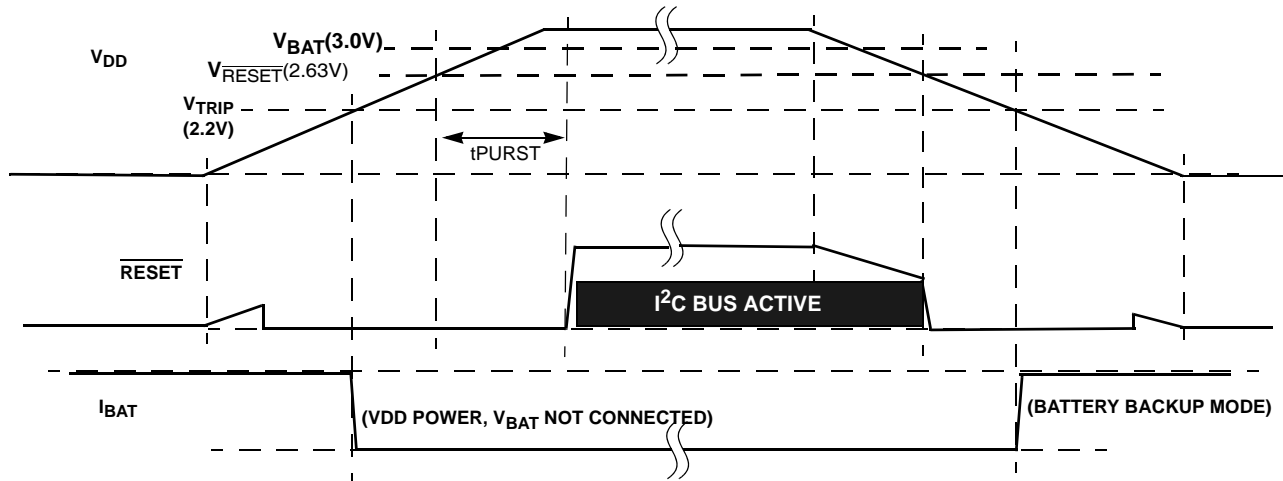

FIGURE 29. EXAMPLE RESET OPERATION IN MODE A OR C
- Mode A - In this mode selection bits indicate a low V_{DD} switchover combined with I²C operation in Battery Backup Mode. In actuality the V_{DD} will go below V_{RESET} before switching to battery backup, which will disable I²C ANYTIME the device goes into Battery Backup Mode. Regardless of the battery voltage, the I²C will work down to the V_{RESET} voltage (see Figure 29).
- Mode D - In this mode the selection bits indicate switchover to battery backup at $V_{DD} < V_{BAT}$, and no I²C communications in battery backup. This mode is unique in that there is I²C communication as long as V_{DD} is higher than V_{RESET} or V_{BAT} , whichever is greater. This mode is the safest for guaranteeing I²C communications only when there is a Valid V_{DD} (see Figure 29).